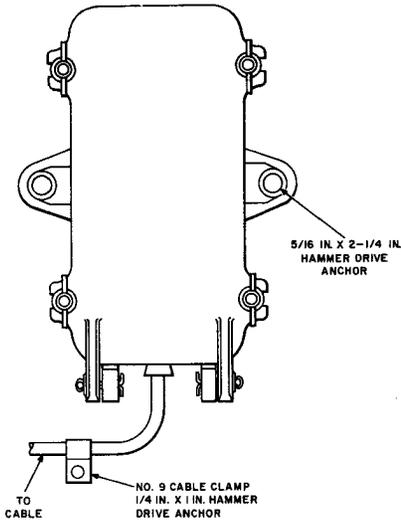

Fig. 2—Placing UG-16 Cable Terminal
- (c) Place the terminal and secure it with the anchoring devices as shown in Fig. 2.
(d) Attach stub cable with cable clamps as shown in Fig. 2.